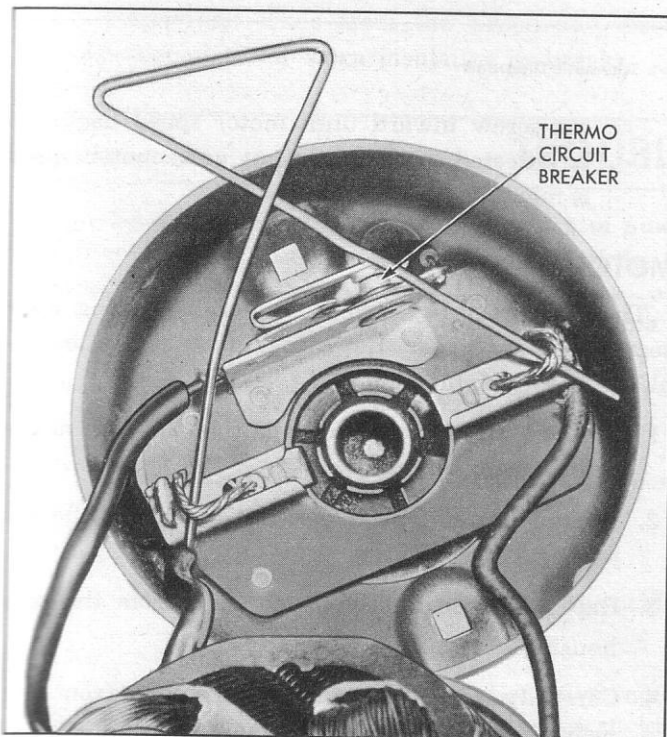

Fig. 13—Retaining Brushes
5. Use a brush holder made from heavy wire to keep the brushes in place while removing the armature from the case (fig. 13).
Check contacts of circuit breaker shown at top of Figure 13. Clean as required or file lightly to remove irregularities.
- c. To reinstall brushes in holders, compress spring within holder and hold fully compressed with a thin instrument inserted through the slot in the brush holder. Then push brush into holder with lead upward to project through slot in holder, hold brush tightly, and remove instrument retaining spring. Hold brush installed with improvised separator as shown in Figure 13.